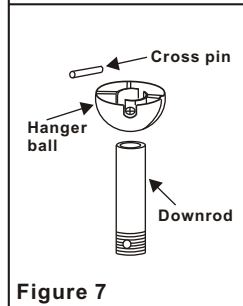

Figure 7
Step 3. Remove hanger ball from downrod assembly by loosening set screw, removing the cross pin, and sliding ball off rod. (Fig.7)